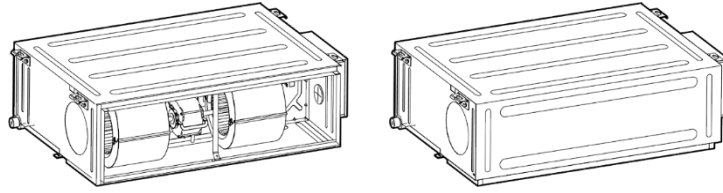

Fig. 4.4.4
① The default installation orientation for the rectangular flange is with the back facing forward and the return air cover plate at the bottom, as shown in Fig. 4.4.4.